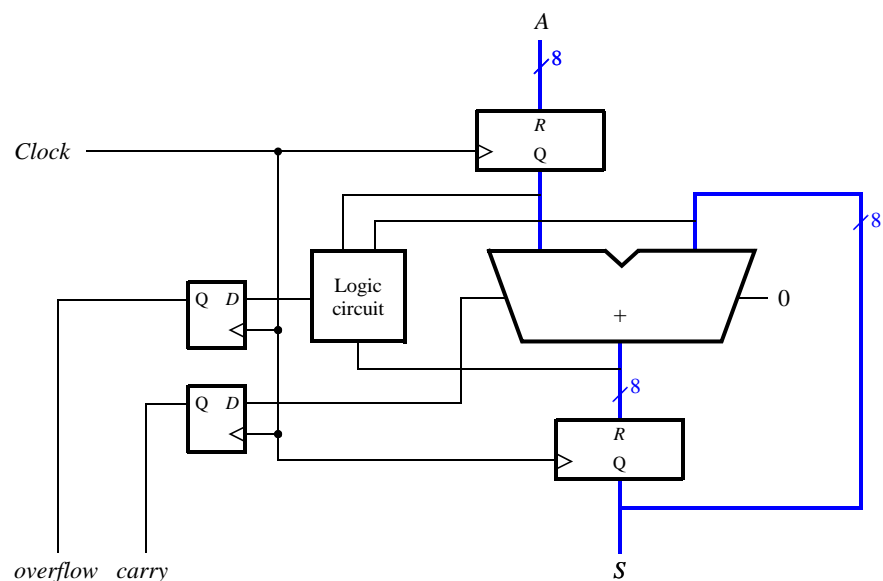

Figure 2: An eight-bit accumulator circuit.
Use this construct to implement a circuit shown in Figure 2. This circuit, which is often called an *accumulator*, is used to add the value of an input A to itself repeatedly. The circuit includes a carry out from the adder, as well as an *overflow* output signal. If the input A is considered as a 2's-complement number, then *overflow* should be set to 1 in the case where the output sum produced does not represent a correct 2's-complement result.
1. Create a new Quartus project. Write VHDL code that describes the circuit in Figure 2.